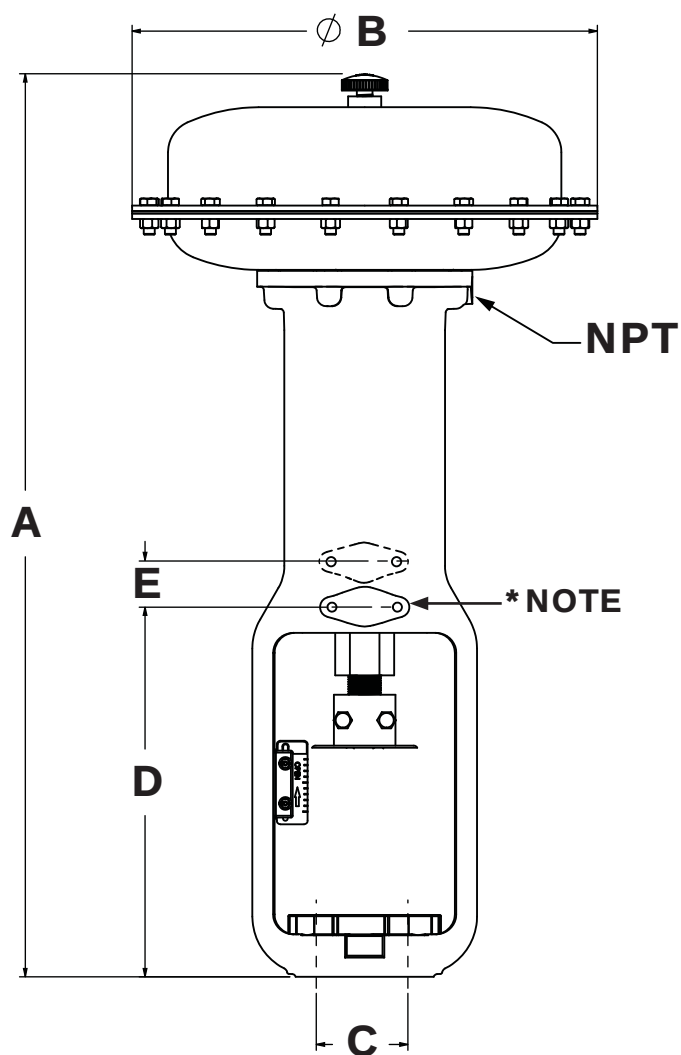

Figure 32 Model DFC Dimensions
Model DFC Outline Dimensions (Refer to Figure 32)
- 2 Remove any positioners and/or instrumentation installed on the actuator. **NOTE:** Be aware that the upper instrument mounting pad of the actuator yoke (Figure 32) is the standard mounting location for the side-mounted handwheel and should be free of instrumentation, mounting brackets, and/or other obstructions.